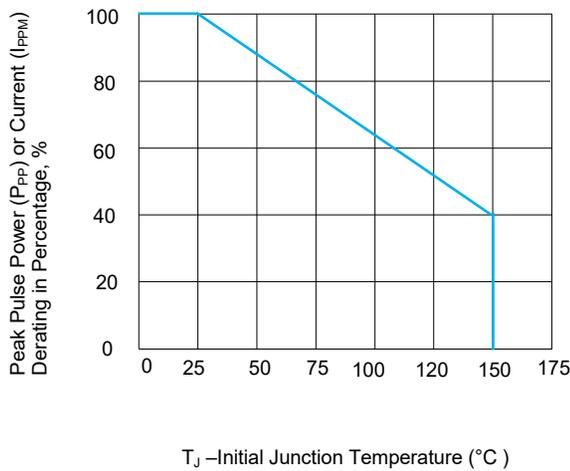
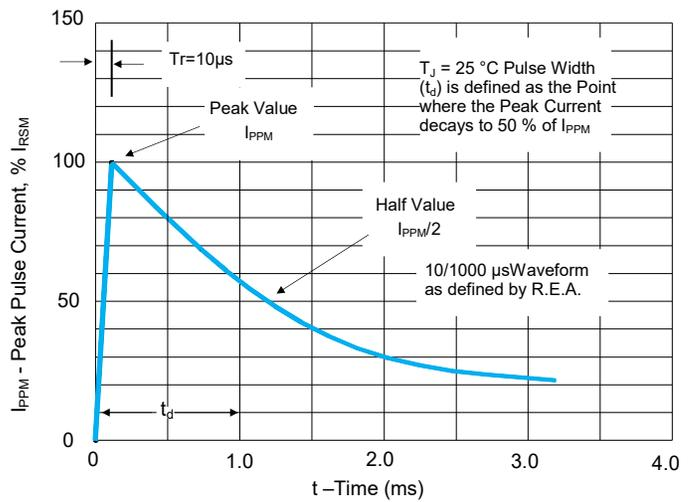

FIGURE 3 Peak Pulse Power Derating Curve
FIGURE 4 Pulse Waveform
1. Non-repetitive current pulse, per Fig. 4 and derated above TJ(initial)=25 °C per Fig. 3.